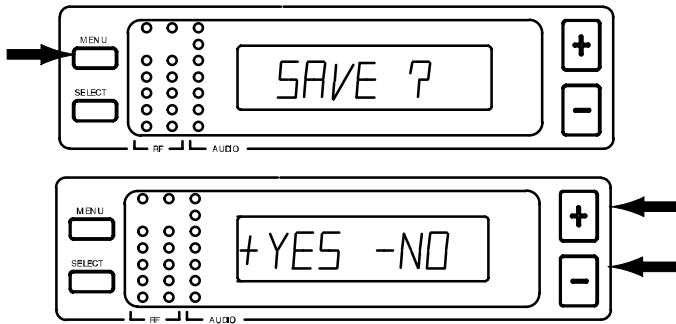

FIGURE 28
5. Once you have reached the desired squelch level, press the MENU button. "SAVE?" appear, followed by "+ YES – NO", as shown in Figure 28. Press the – button to make more changes, or press + to save the new squelch setting and return to the Group/Channel/TV display.